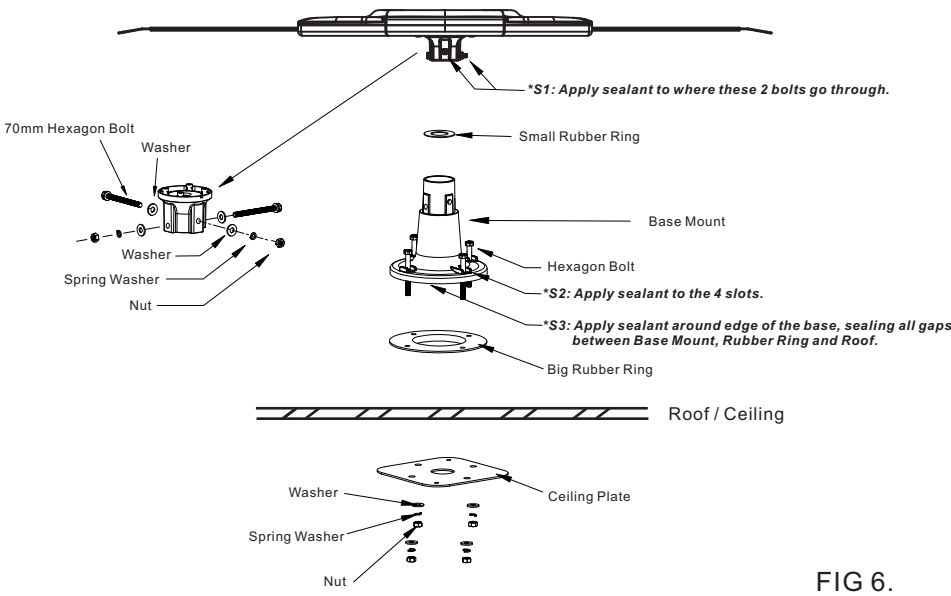

FIG 6.
**STEP 5:** Inside the vehicle, install the ceiling plate to the 4 hexagon bolts which come through the roof. The necessary hardware is included in the packaging. (Refer to FIG 6.)
**STEP 6:** Apply sealant to all bolts on the base mount (Refer to where marks \*S in FIG 6.).